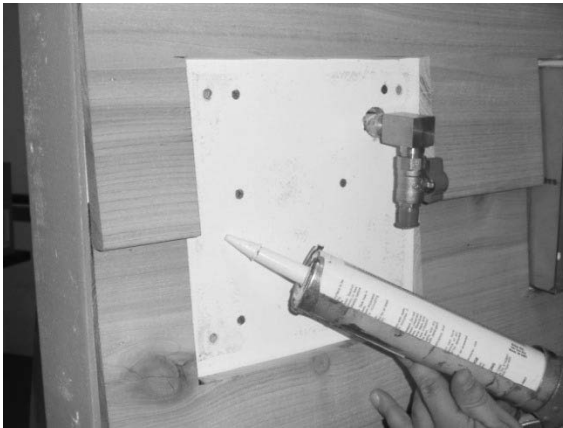
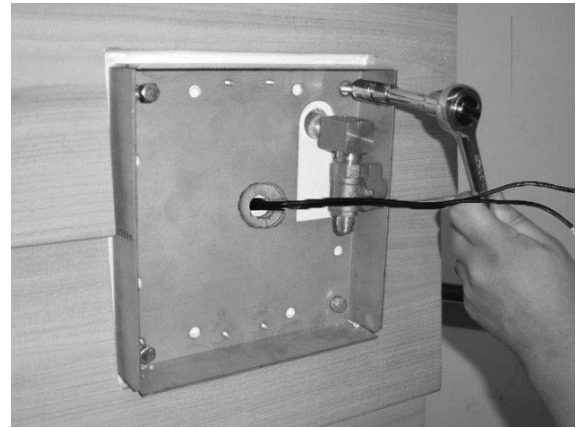

Figure 6
Figure 7
5. Remove and discard the templet used in step 3 (set the (4) lag bolts aside for reinstallation). Place a ¼" bead of silicone around the perimeter of the wall plate location (see Figure 6). This silicone will help weatherize the wall mount. **Seal the gas line and electrical penetrations and any exposed exterior sheeting at this time.** Secure the wall plate to the wall using the four lag bolts used to secure the templet in step 3 (see Figure 7) or other suitable means. Once the wall plate is in place, you may wish to seal the area around the perimeter of the wall plate if it is exposed to weather (see Figure 8). Make sure the sealant does not interfere with the cover plate – wipe off any excess sealant before proceeding.